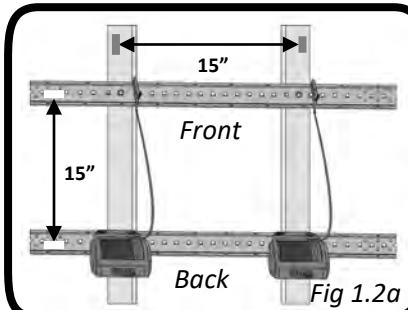
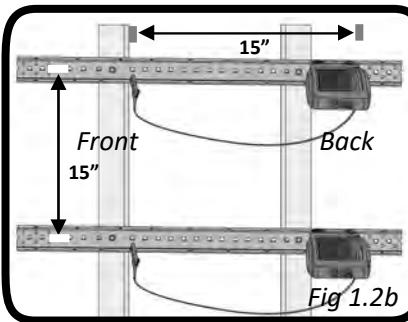

Fig 1.2a
Fig 1.2b
3. Mount myLifters on tracks 15" apart. They can be mounted on the same rail (Fig 1.2a), or on opposite rails (Fig 1.2b), depending on the direction of the ceiling joists relative to the vehicle. Each lifter cable will fall along either side of the hard top. The carabiners will be hooked to the rails 15" from the myLifters. This forms a 15-inch square on the ceiling.